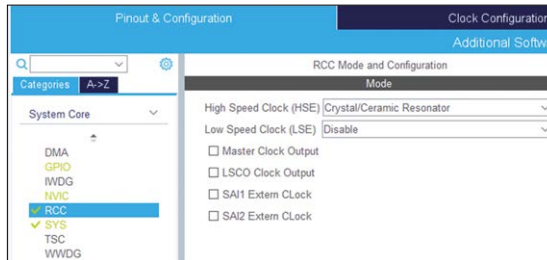

Figure 5.16: Select external clock (HSE).
- In the configuration screen, click **System Core** and select **RCC**. Then select **Crystal/Ceramic Resonator** for the **High Speed Clock (HSE)**, as shown in Figure 5.16